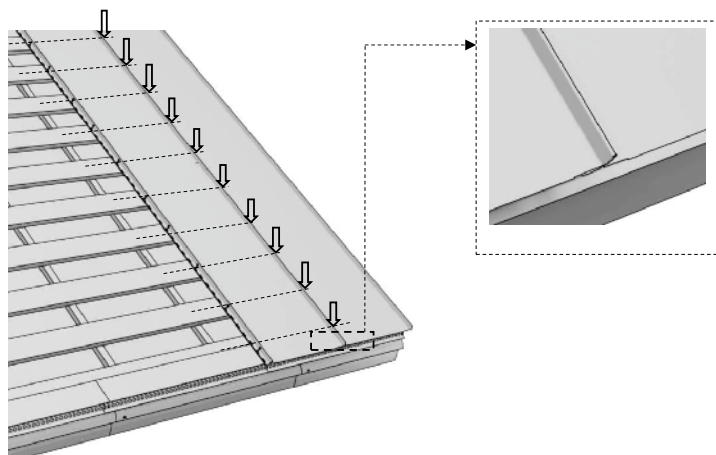

Fig. 31
- Once the overlapping panel is properly positioned, press on the lock of the overlapping panel to close the lock. If a hammer is to be used to finish-up the pressing, then the hammering should only be carried out on a piece of timber batten placed longitudinally on already-pressed lock. Locations of pressing and further finishing-up are marked with arrows in the drawing (Fig. 31).